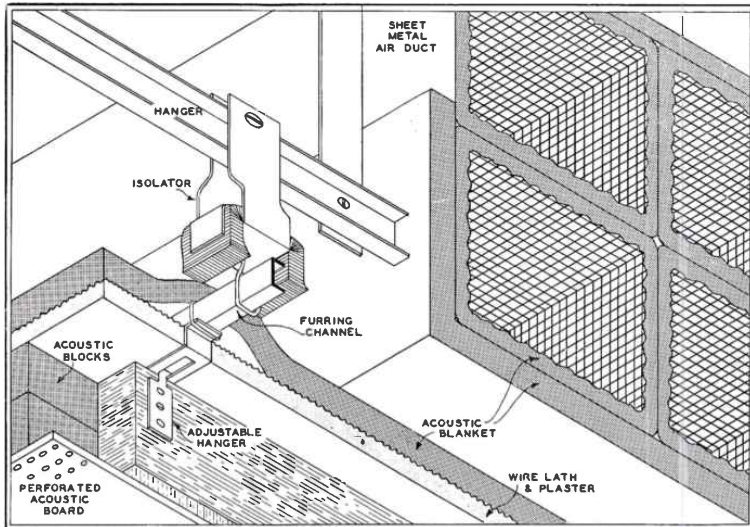

FIG. 8. HOW A SUSPENDED CEILING CAN BE CONSTRUCTED FOR REDUCTION OF NOISE FROM ABOVE
Where sound isolation is desired from a relatively quiet room overhead, a suspended ceiling is usually adequate. Typical construction for this type of ceiling is shown in Fig. 8. It will be noted that this type of ceiling construction has another advantage in that air-conditioning ducts can be concealed easily, and duct noise is reduced considerably.
2) Running ducts above suspended ceilings, as in Fig. 8.
3) Using an internal lining of acoustic material in all ducts. This may be Fiber Glass, Cabot's Quilt, or some similar acoustic blanket material. It may be necessary in some cases to subdivide the ducts into two or more parts, each lined with absorbing material, as illustrated in Fig. 8. This lining reduces noise and vibration from the fans and from air rush.